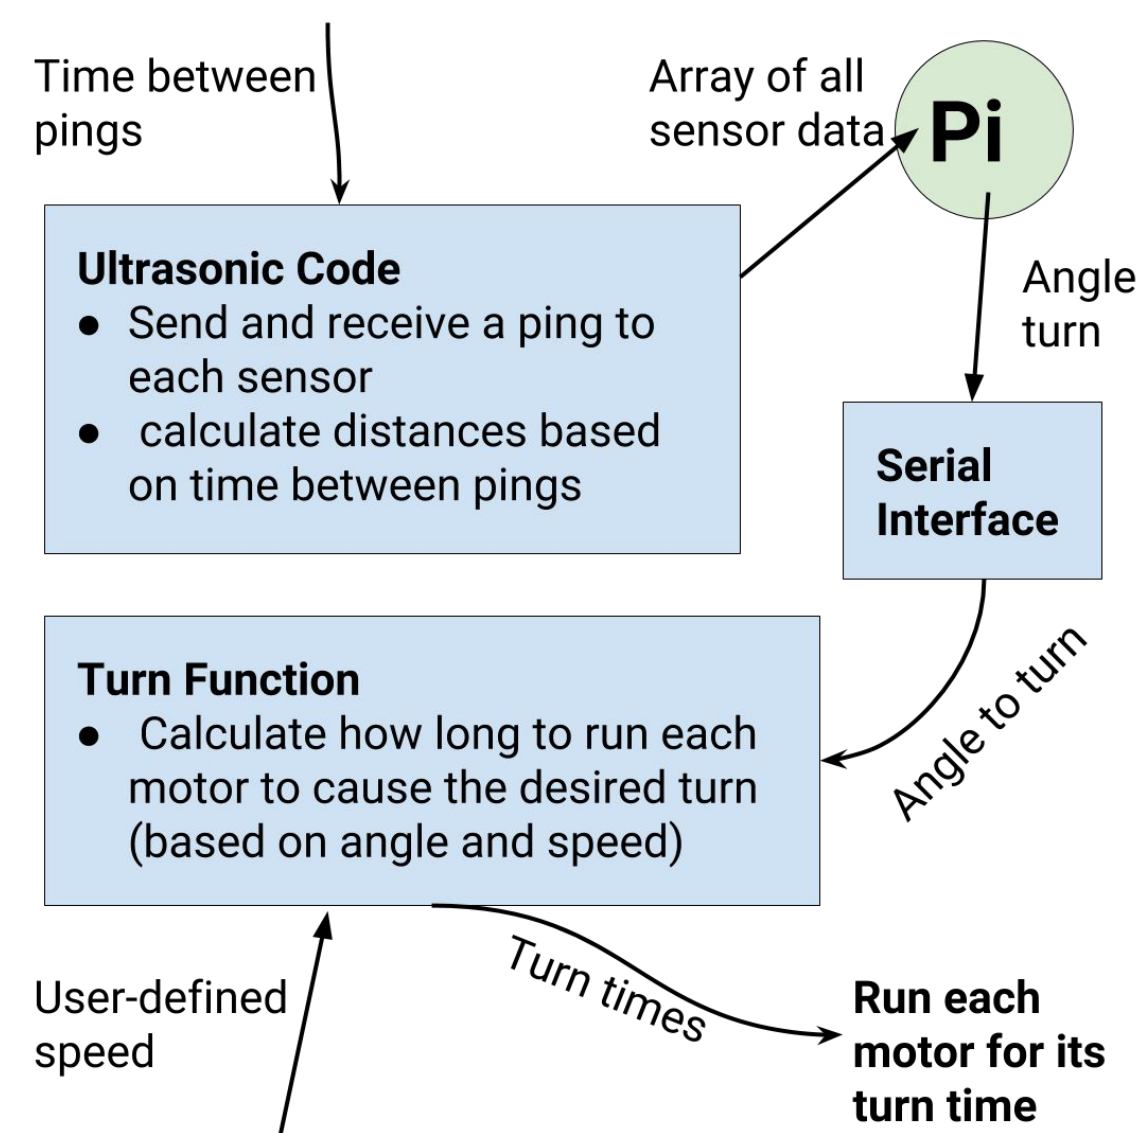

Fig. 3: Diagram showing the connections between the main software components
- Figure 3 represents the code running on the Arduino. It takes input from the sensors, outputs it to the Raspberry Pi, and then takes input from the Raspberry Pi on which direction to turn